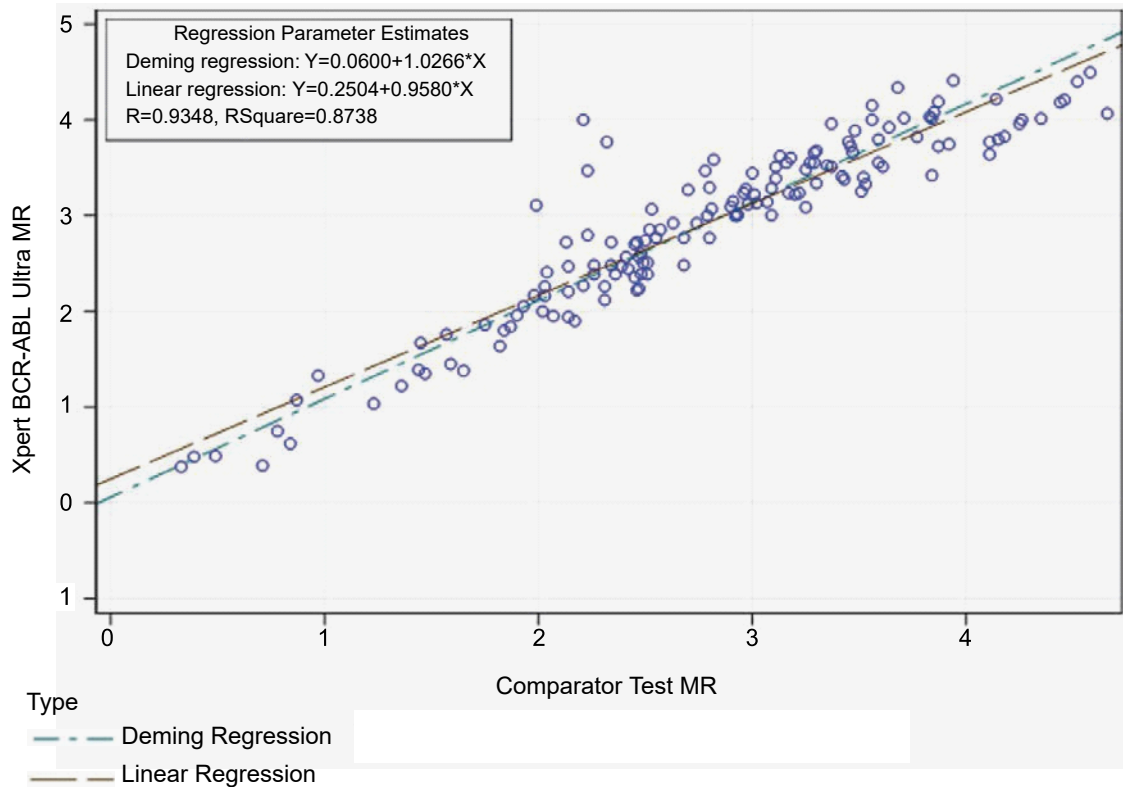

Figure 2 Deming and Linear Regression Analyses
Of the 208 results that were available for analysis, 147 had results that were within the quantitative reportable range for both tests [0.0030% - 55% (IS)/MR4.52 - MR0.26] for Xpert BCR-ABL Ultra and 0.0020% - 50% (IS)/MR4.72 - MR0.30 for the Comparator Test]: 117 of which were from frozen left-over lysates and 30 of which were fresh prospectively collected specimens. The performance of the Xpert BCR-ABL Ultra test versus the Comparator Test was evaluated using a Deming regression to determine the slope and intercept. Figure 2 shows the Deming regression and linear regression analysis of the 147 test results (MR values).